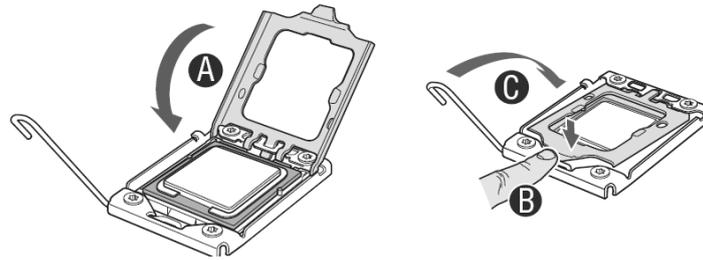

Figure 17. Close Load Plate and Socket Lever
10. Close the load plate and socket lever: Close the load plate all the way as shown in Figure 17 (Step "A"), push down on the load plate (Step "B" in Figure 17), and close the socket lever and ensure the load plate tab engages under the socket lever when fully closed (Step "C" in Figure 17).